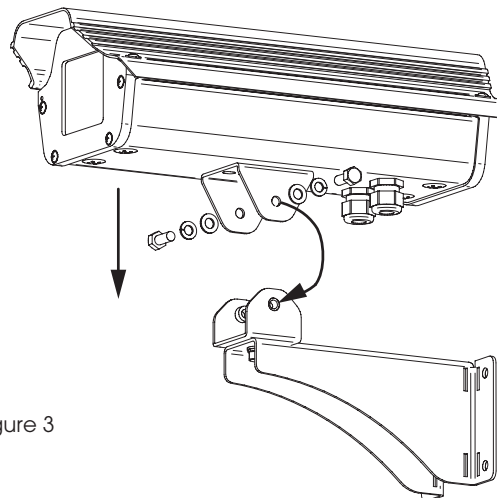

Figure 3
3. Take the camera housing and align the tilt mechanism holes with the holes on the pan mechanism (see Figure 3).